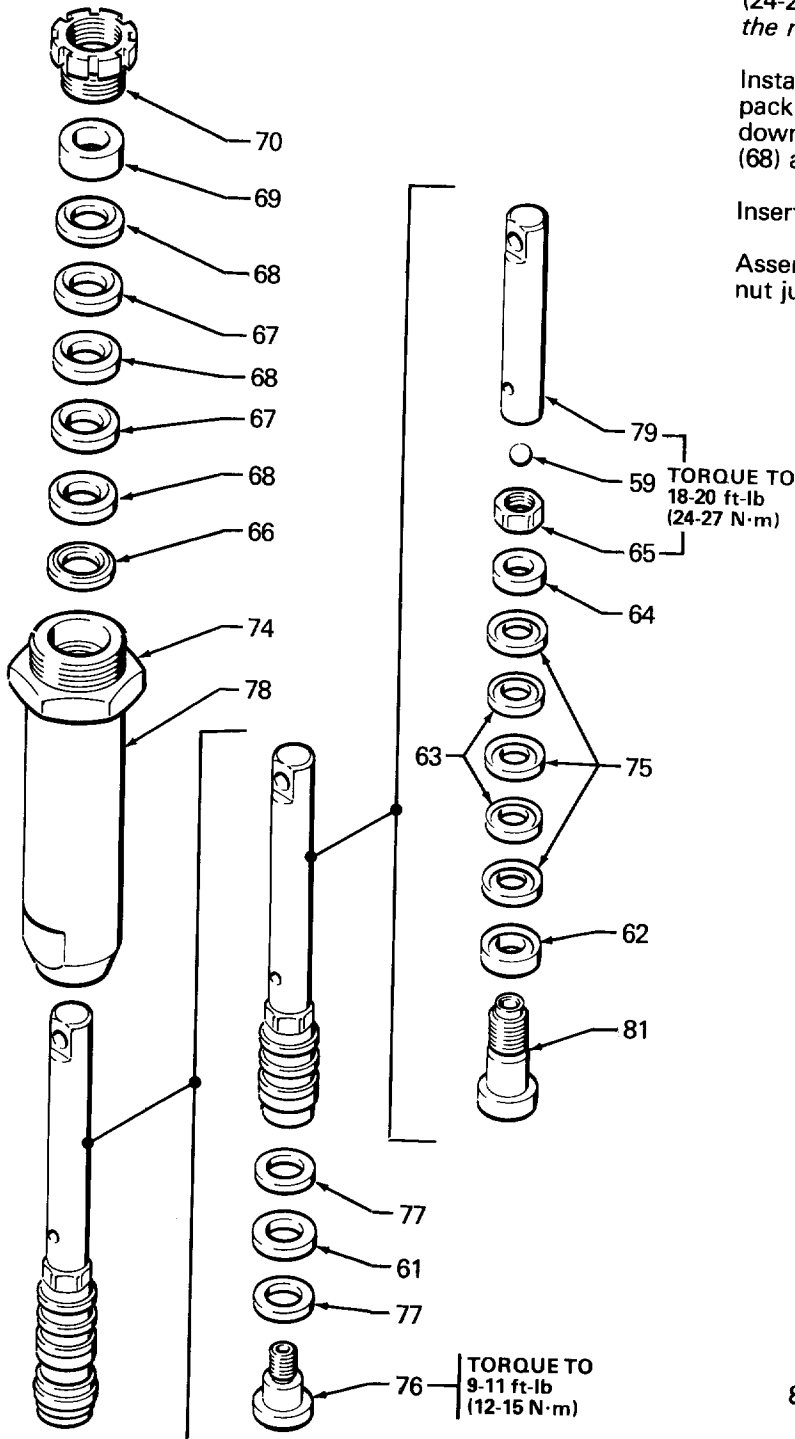
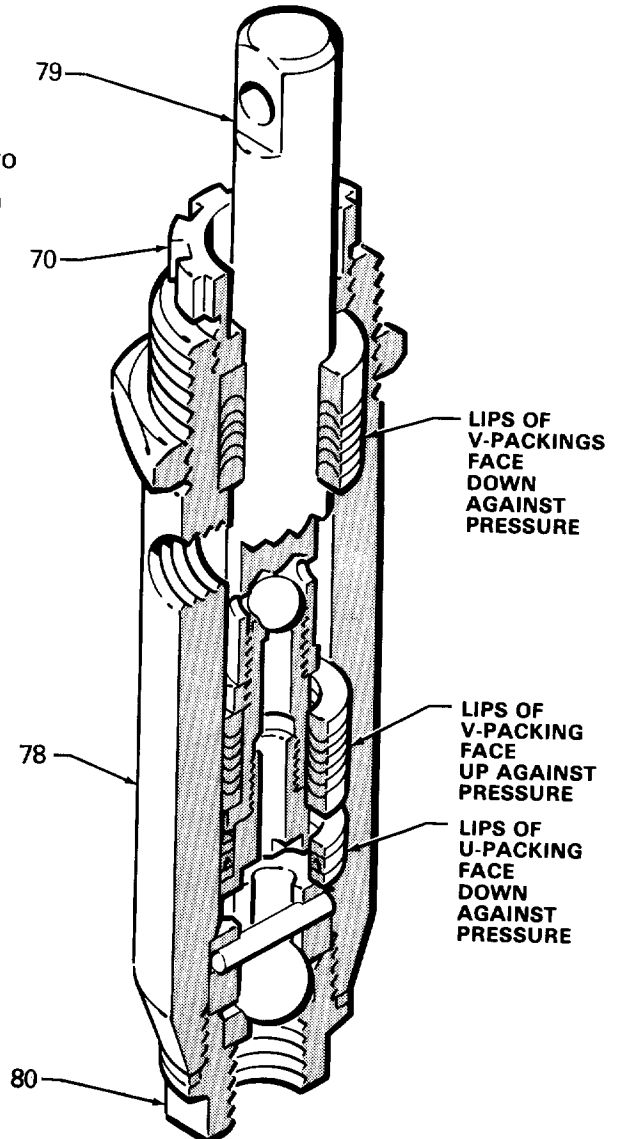

Fig 16
Fig 17
Unscrew and remove packing nut (70). Using a rubber mallet, tap piston rod (79) down and pull out through bottom of cylinder (78). See Figures 16 and 17.
Clamp flats of piston rod in a vise. Use a large screwdriver to unscrew adapter (76) from valve (81). Remove seal (61) and washers (77). See Figures 16 and 17.
When reassembling piston, install new glands and packings in correct order, alternating leather and plastic packings. See Fig 16. The lips of the V-packings must face up against fluid pressure. See Fig 17. Tighten the nut (65) to 10.5 in-lb (1.2 N·m) to seat the packings, *then back off the nut and hand tighten it.*
Install throat packings, glands and packing nut, leaving packing nut loose. The lips of the V-packings must face down against fluid pressure. Alternate plastic packings (68) and leather packings (67) in order shown in Fig 16.